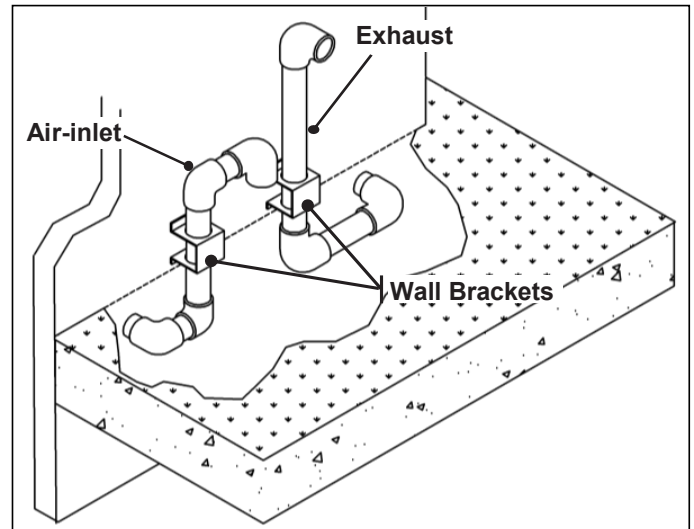

Figure 32 - Venting Below Grade
- Excavate the site to a point where the pipes are to exit as shown in Figure 32.